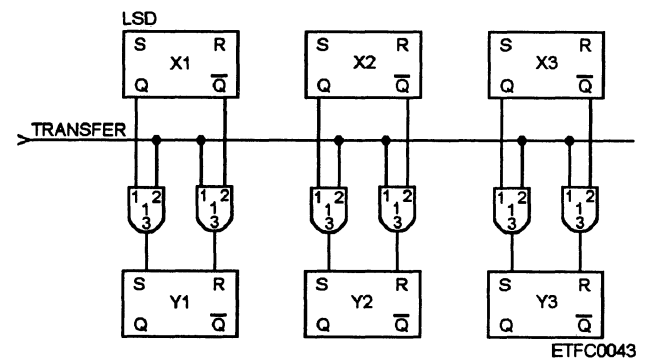

Figure 4-26.—Example of a double-line parallel transfer.
- Double-line (dual) parallel transfer (also called forced method)—1's **and** 0's are moved. This transfer is faster than the single-line parallel transfer; however it requires more logic gates. With this method the receiving register is forced to assume the state of corresponding flip-flops of the sending register. This eliminates the need to clear the receiving register's contents before the transfer. Refer to figure 4-26.